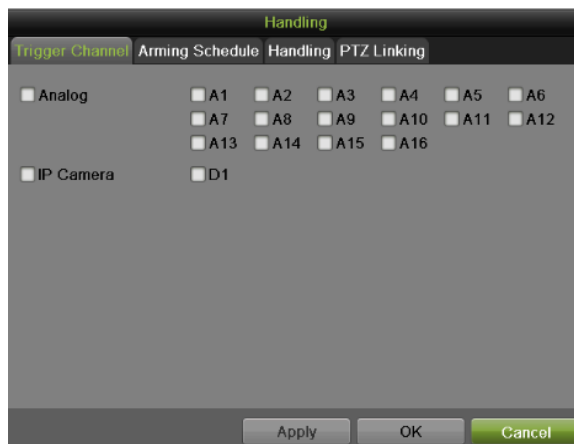

Figure 137 Trigger Channel Settings Menu
7. Click Handling Set to pop-up the Handling menu, as shown in **Figure 137**.
- 3) Select the Handling tab which is same as **Figure 137** to set other actions. Click Apply to save the settings.